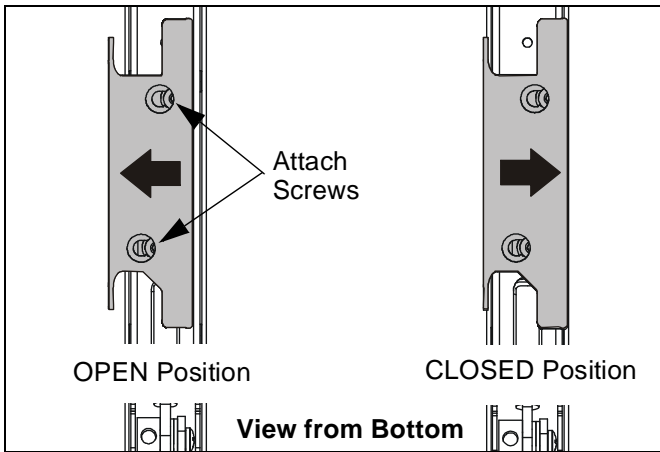

Figure 7
2. Open the cable management bracket by sliding it towards the edge of the arm (See Figure 7).
4. Close cable management bracket by sliding it back towards the centerline of the arm (See Figure 7).